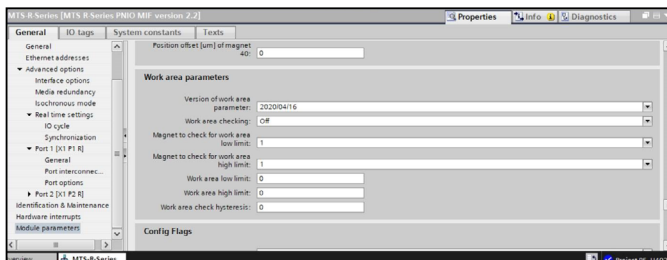

Fig. 117: Setting the switching points for the work area
• **Setting the switching points for input module “Sensor status 2”:** To read the information from the input module “Sensor status 2”, drag this module into the “Device Overview” window. In the “Module parameters” section of the sensor, you can set the parameters for switching points under “Work area parameters” (Fig. 117):